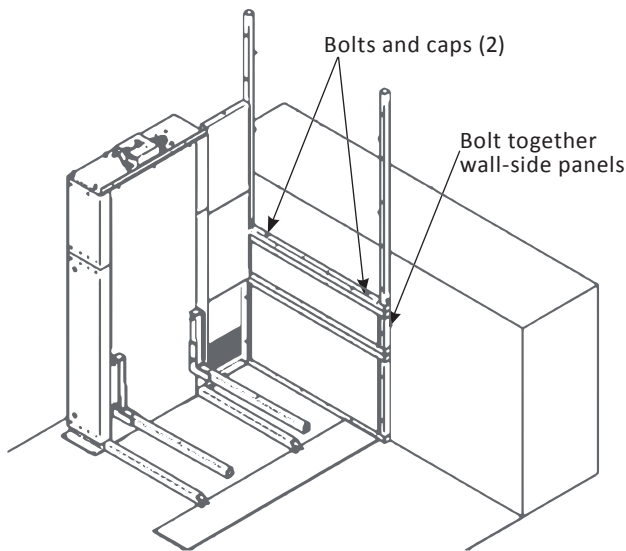

Figure 3-4
- Depending on the application, specifically if it is a wall side first, you may not have access to the bolt holes when it is assembled. Use the fastener kit specified on the installation drawing to assemble panels. **See Figure 3-4.**